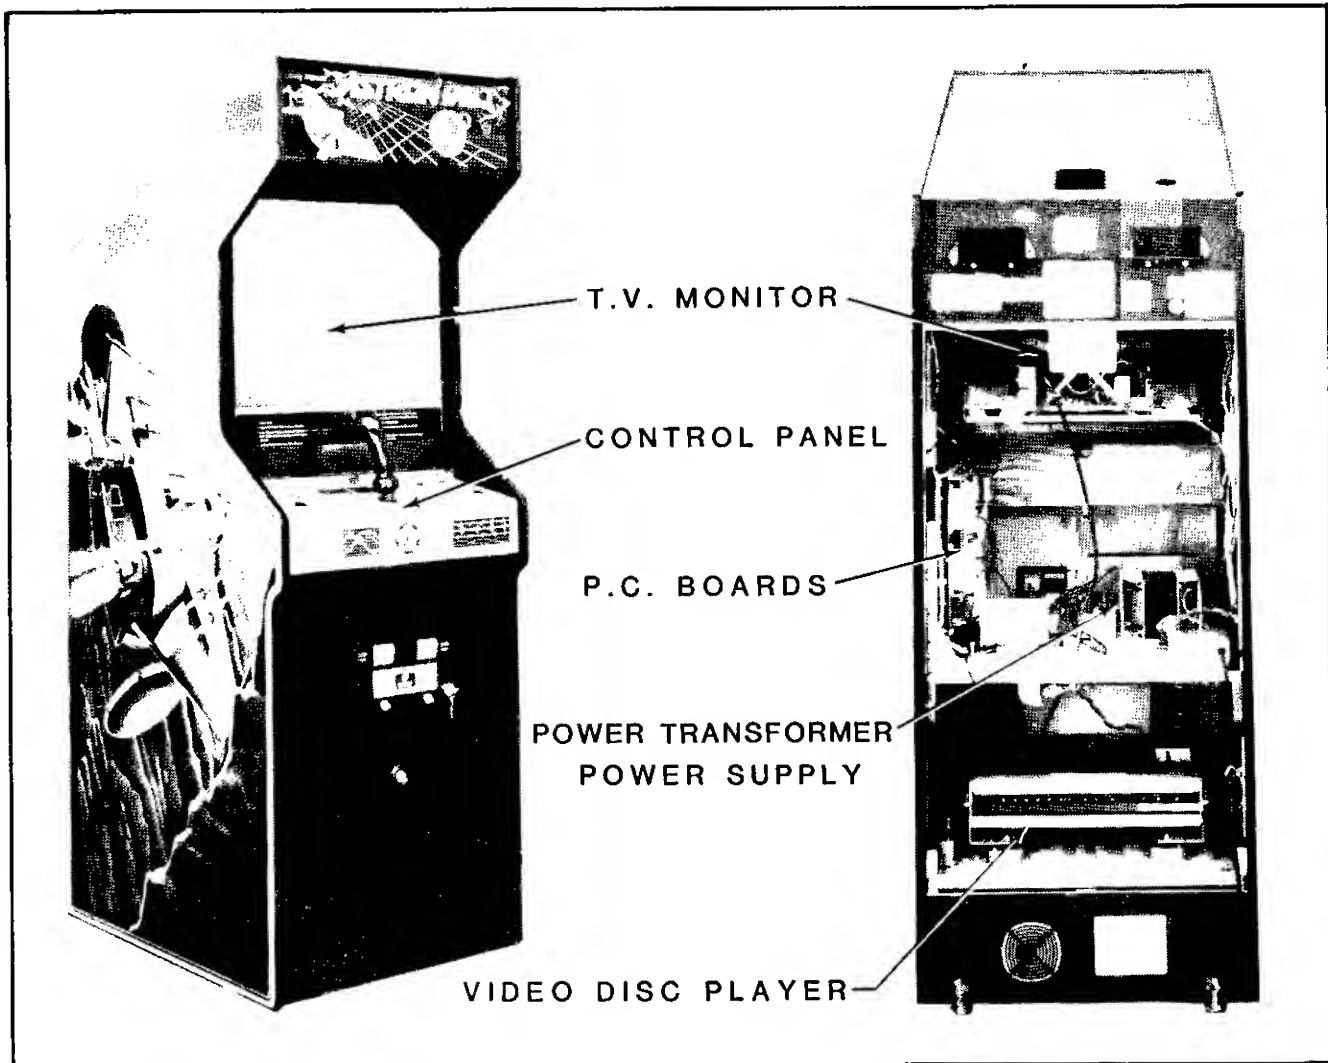

Figure 1-2 Location of Serial No., Interlock Switch, & Major Sub-Assemblies
5. Open the cabinet and inspect the inside of the game for any signs of damage. See Figure 1-2.
- ☐ Make sure all printed circuit boards (P.C.B.'s) are firmly seated in their connectors. See Figure 1-2. These connectors are
- ☐ Note the location of the games serial number. See Figure 1-2.
- ☐ Check all major subassemblies to be sure they are mounted securely. These are called out in Figure 1-2.
3. Interlock and power ON/OFF switches. See Figure 1-2.
The game ON/OFF switch is located as shown in Figure 1-2. Turn the game on and allow it to warm up a few minutes.